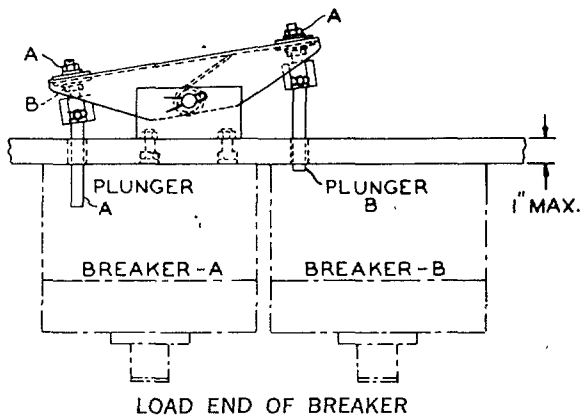

Figure 4. Breakers mounted on the panel, showing the interlock plungers moving in the holes in the breaker cases
2. Remove the breaker end shields and mount the breakers on the panel, ensuring that the interlock plungers move freely in the holes drilled through the rears of the breaker cases. See Figure 4.
2. Back off nuts A and B on plunger A to the last few threads, as shown in Figure 4.